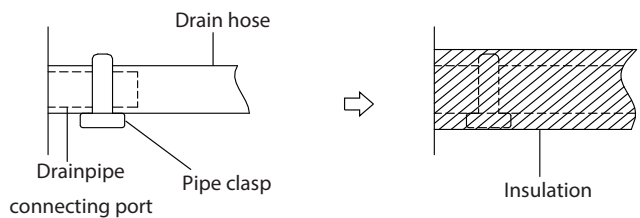

Fig. 15 – Indoor Drainpipe Installation
2. Attach the mouth of the drain hose to the unit's outlet pipe. Sheath the mouth of the hose and clip it firmly with a pipe clasp (see Fig. 15).